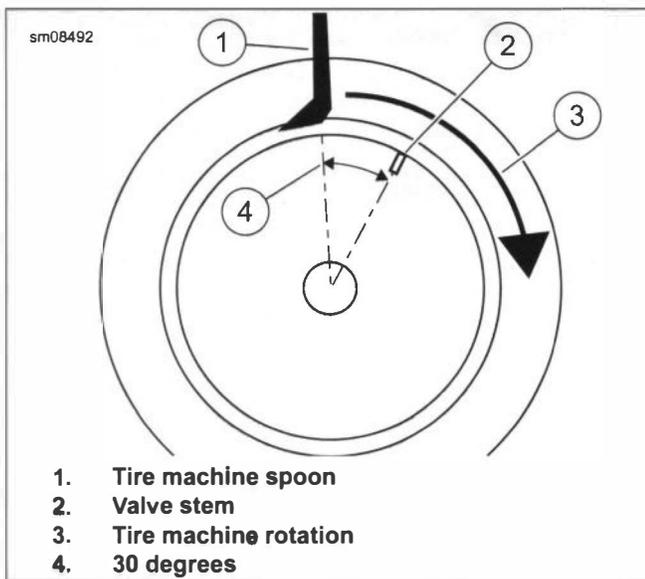

Figure 3-17. Tire Machine Operation
2. See Figure 3-17. Engage tire machine spoon (1) 30 degrees (4) from the valve stem (2) in the direction of tire machine rotation (3).
See Figure 3-17. Install tire on wheel.